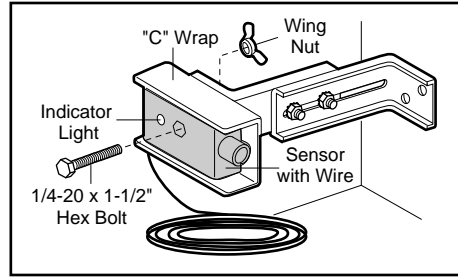

Figure 5
7. Center each sensor unit in a "C"- wrap with lenses pointing toward each other across the door (see Figure 5).